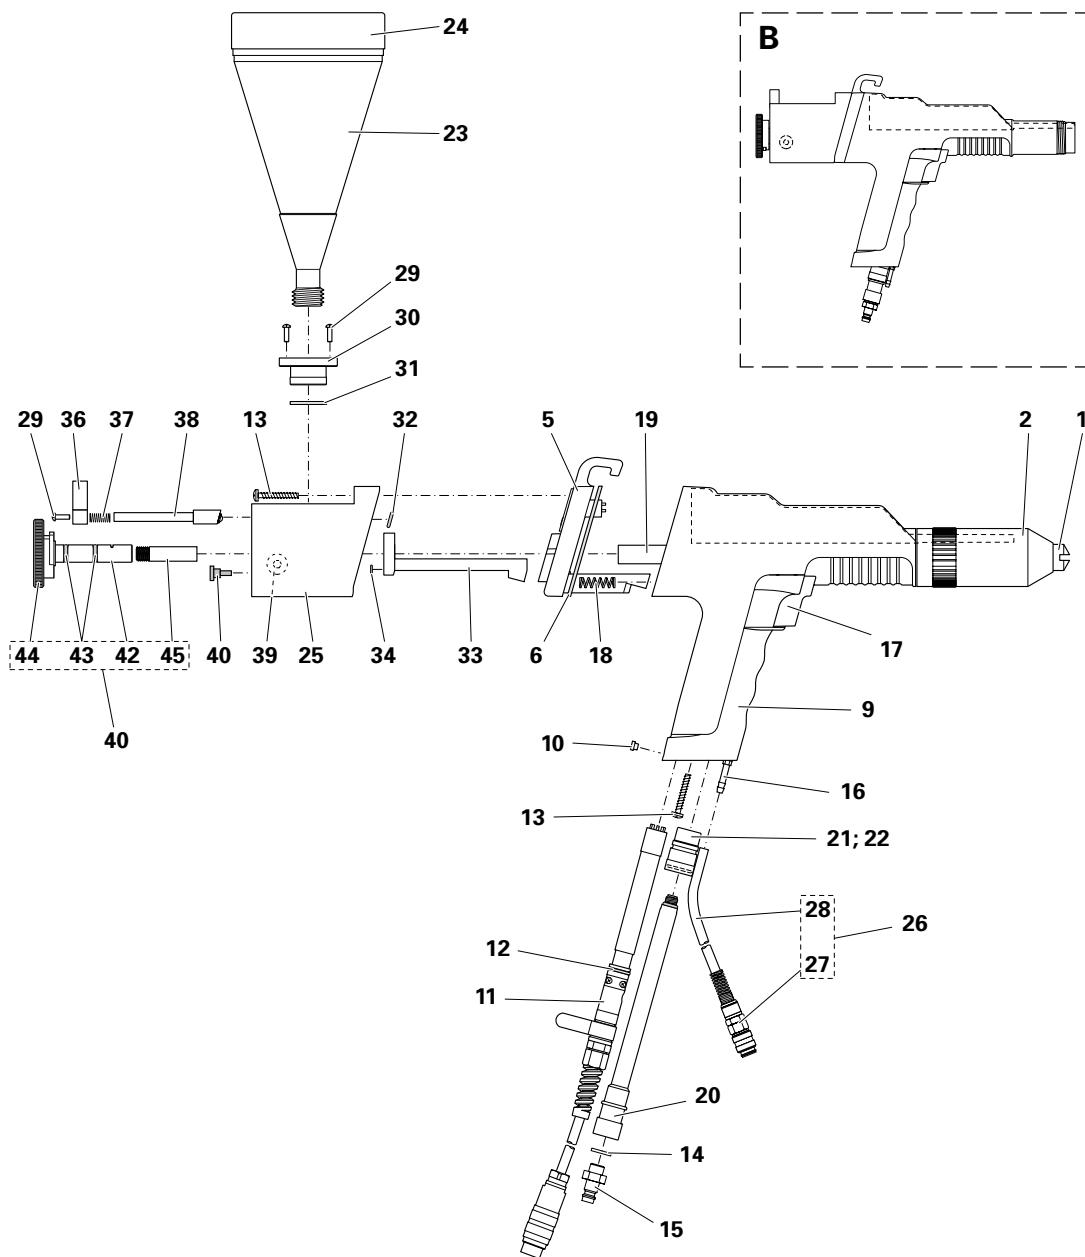

Figure 13
7. Clean the gun tube (**19**, Fig. 13) with the brush supplied.